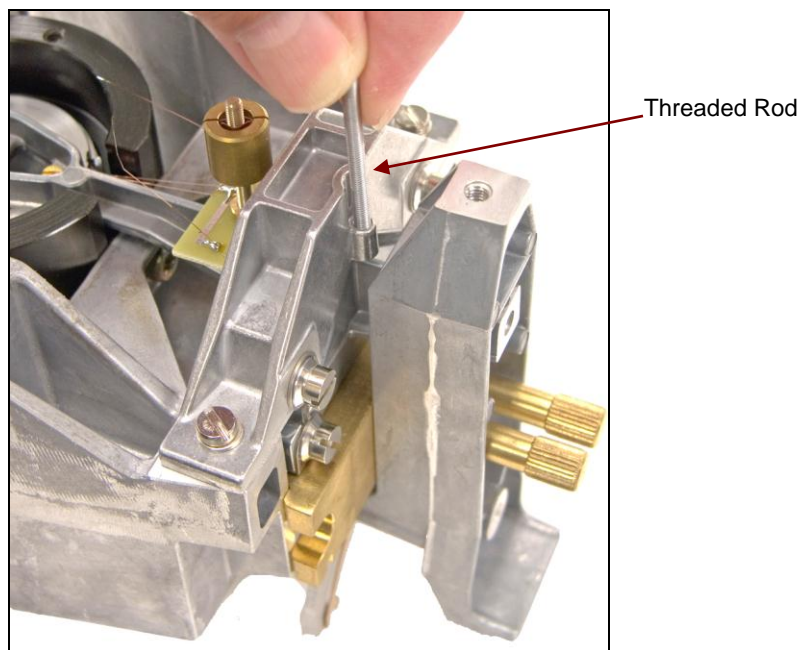

Figure 3-48. Screwing in Threaded Rod on front of Load Cell.
10. Before removing the bottom Flexure Arm, secure the Ratio Beam by installing the threaded rod, as illustrated in Figure 3-48. Then turn the Load Cell over, as shown in Figure 3-76, and remove the bottom Flexure Arm, as in Step 9.